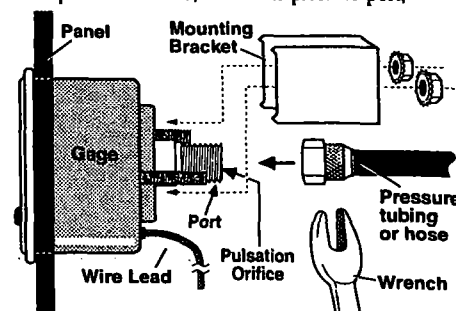

Figure 2
All models can be installed in a panel from 0.032 to 0.250 in. (1 to 6 mm) thick. Remove the mounting bracket and insert the gage from the front side of the panel. Replace bracket and secure it. Do NOT overtighten. (See Figure 2).
1. Pressure tubing is generally not provided. Use of good quality flexible pressure tubing/hose and fittings is strongly suggested. Use at least 3/16 in. (5 mm) I.D. tubing. If using copper or rigid tubing, install at least 12 in. (305 mm) flexible hose from the gage to the rigid tubing. This prevents damaging vibration from reaching the gage. For most models a pulsation orifice, within the pressure port, is provided and it is removable for cleaning (Figure 2).
1. To connect the high pressure tubing use at least 3/16 in. (5 mm) I.D. flexible pressure tubing/hose and fittings. If using copper or rigid tubing, install at least 12 in. (305 mm) flexible hose from the gage to the rigid tubing (to prevent damaging vibration to the gage, see Figure 2).